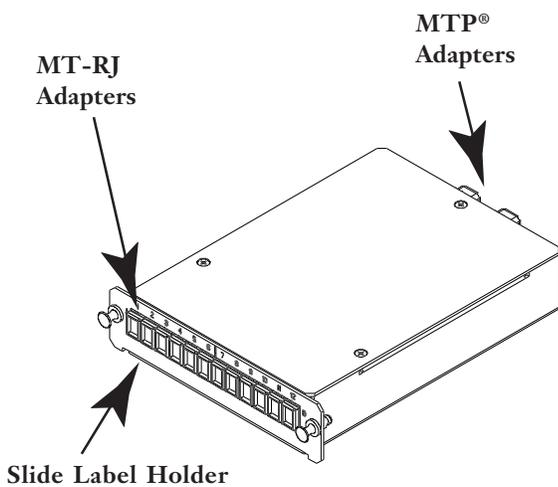

Figure 7
6.1 HDH connector modules typically support 24 fibers each and are mounted on the removable tray (Figure 7).